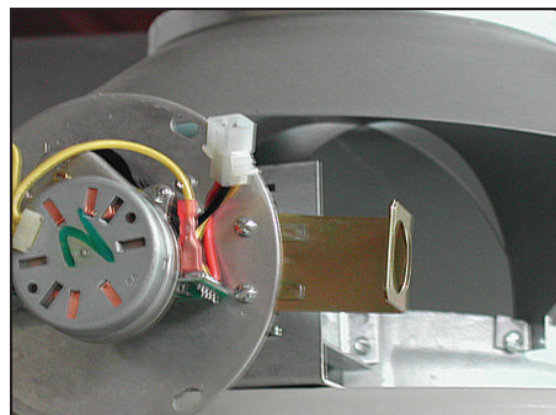
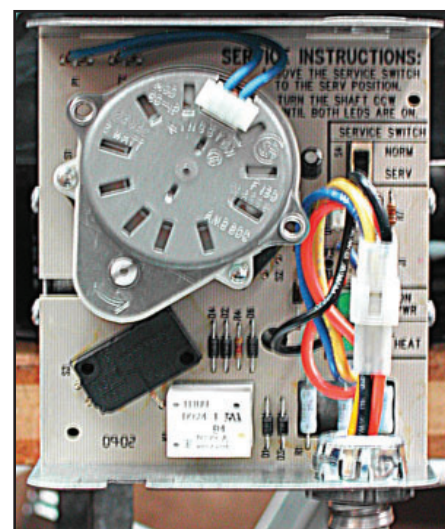

Figure 10
Figure 11
2. Connect the CK-92FVP's pre-wired damper cable to the vent damper. (See Diagram A) Snap the end of the flexible conduit into place on the vent damper conduit bracket. If the damper has a round type motor assembly and does not have a conduit bracket (See Diagram A), install the supplied conduit bracket using the supplied #6 screws and nuts. (See Figure 10) If it has a rectangular or "box-like" motor assembly, refer to Figure 11 for cable attachments.